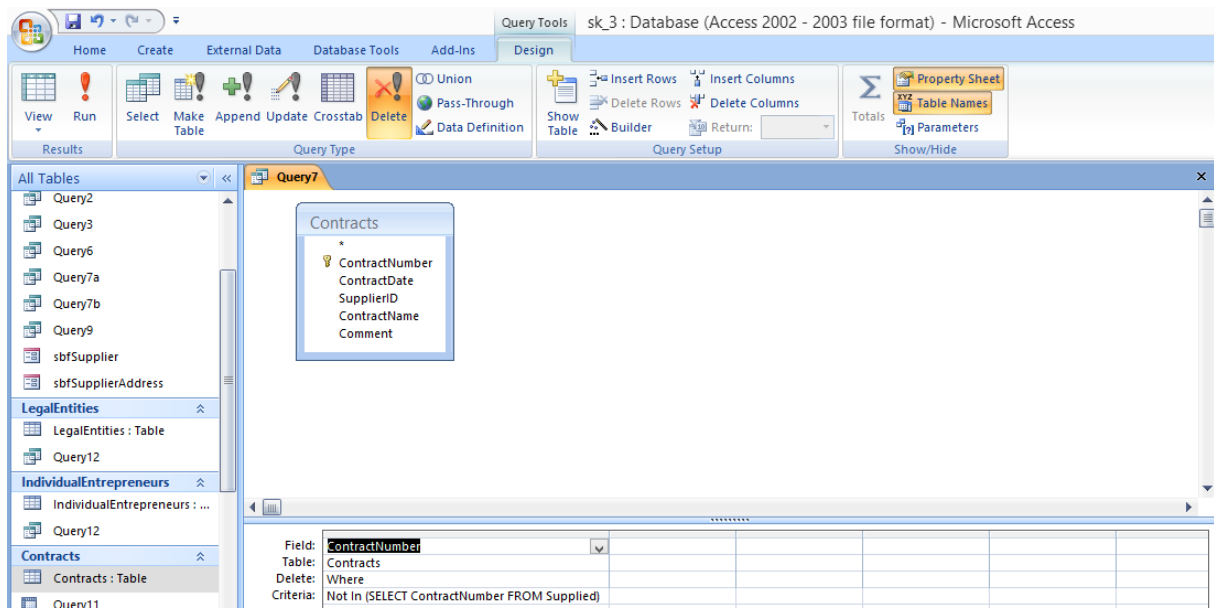

Figure 3.18
2) Use the following SQL command or use the query designer (figure 3.18):